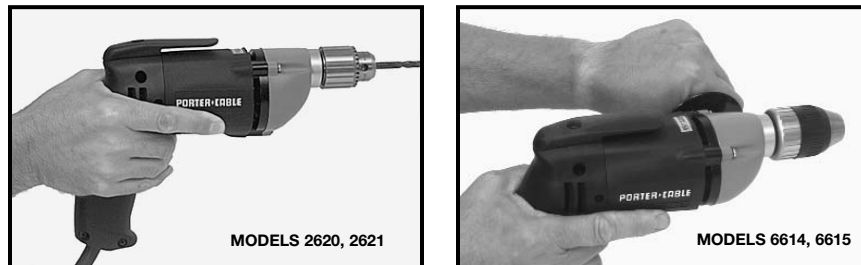

Fig. 4
It is strongly recommended that the auxiliary handle be used and tool held as illustrated in Fig. 4 during all drilling operations.
**⚠ WARNING:** The front end of drill may be made live if the tool drills into live wiring in a wall. TO PREVENT ACCIDENTAL ELECTRICAL SHOCK, DRILL MUST BE HELD AS SHOWN IN FIG. 4. APPLY FORWARD FORCE ON THE PISTOL GRIP HANDLE ONLY, AND ONLY WITH YOUR HANDS.